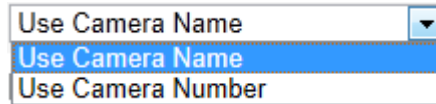

Figure 6-21 Child Directory
- ◆ **Child directory:** It is a sub-folder which can be created in the parent directory. The files will be saved in a sub-folder in FTP server. The name of folder can be defined as shown in following Figure 6-21.